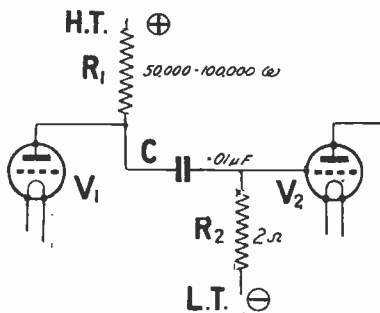

Fig. 2.—Details of the resistance coupling connections.
be constant and it may be noisy. The value of the resistance R_1 in Fig. 2 may be 50,000-100,000 ohms.
Fig. 2 shows diagrammatically the details of the resistance coupling. The actual coupling between the plate of V_1 in the drawing and V_2 is provided by a coupling condenser (C). Condensers up to .25 μ F have been used in this position, but excellent results are to be obtained with a capacity of .01 μ F. Now a condenser of this size can be obtained quite cheaply in the clip-in type with a mica dielectric. Since the grid of V_2 is insulated by the coupling condenser C, a leak, R_2 , must be provided. A suitable value for this is 2 megohms, and it is essential that the leak used should be of the best quality, for otherwise its resistance may not